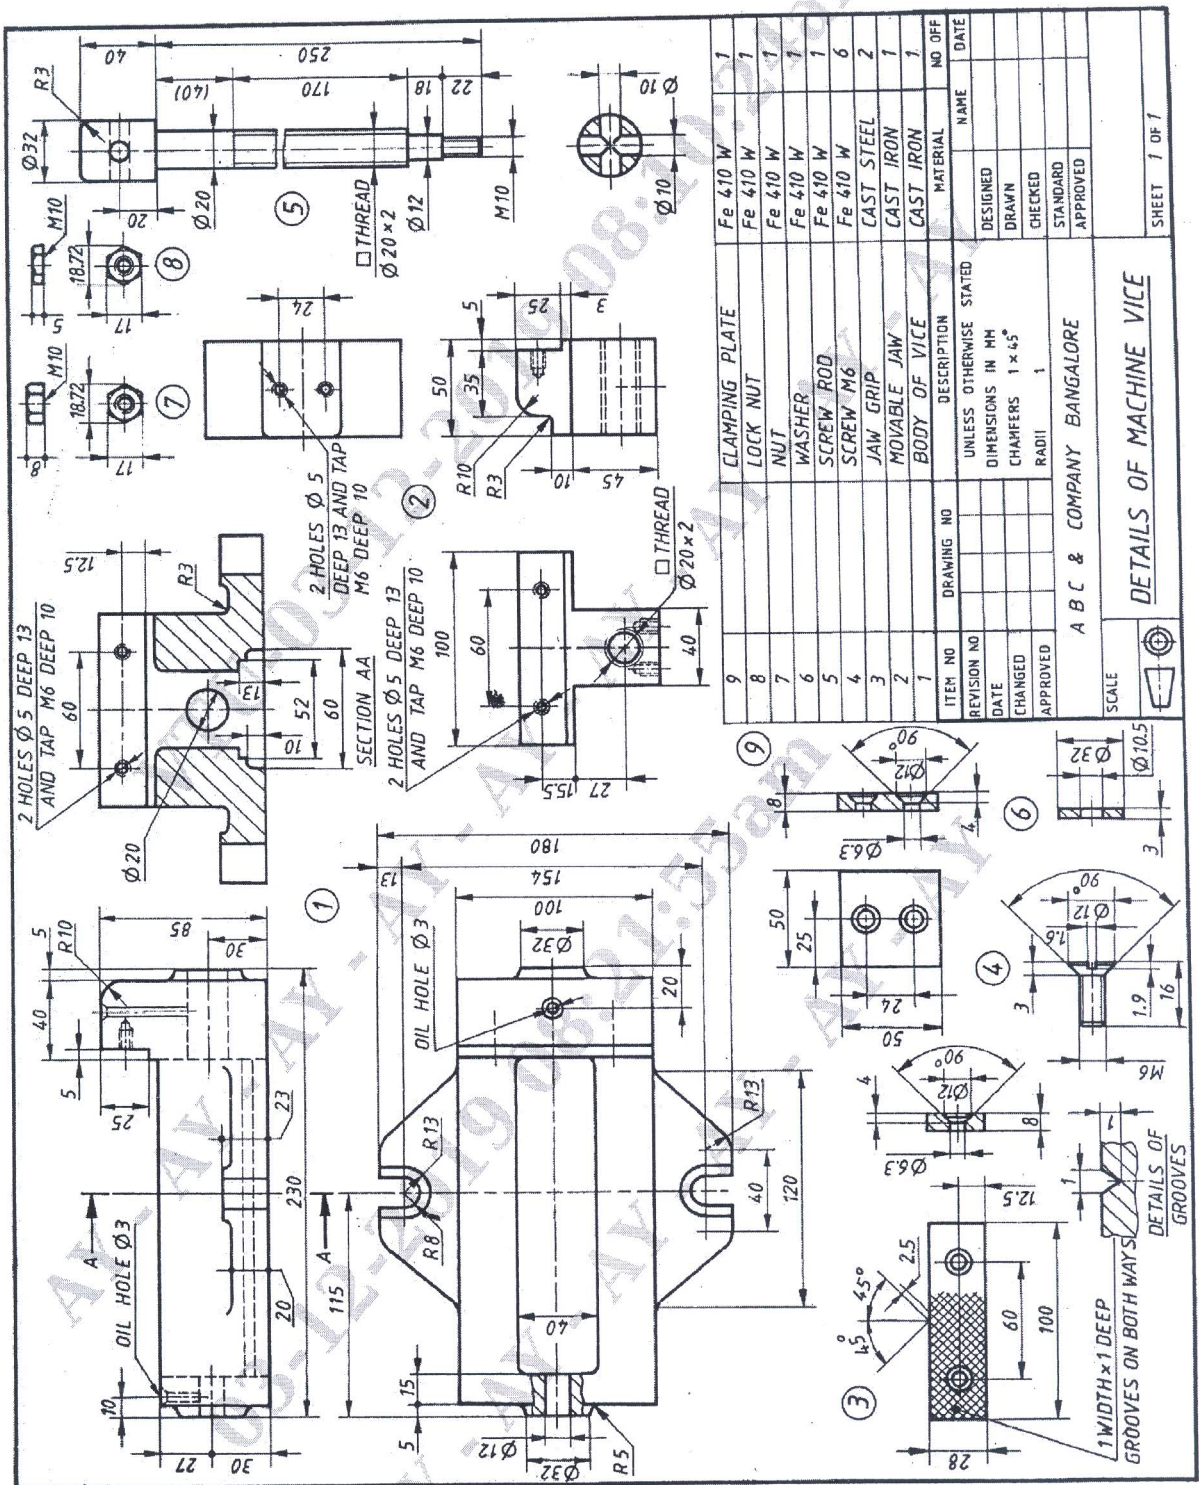

Figure 1: Details of Machine vice
- Q.No.5** Figure 1 shows the details of a Machine vice. Assemble the parts of the Machine vice and show the following views.